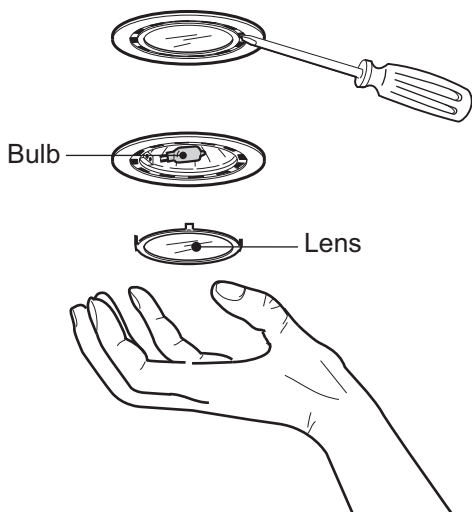

Figure 4: Halogen Light Replacement
1. Using a flat edge from a screwdriver or equivalent tool, pry loose the lens cover, as shown in *Figure 4*.